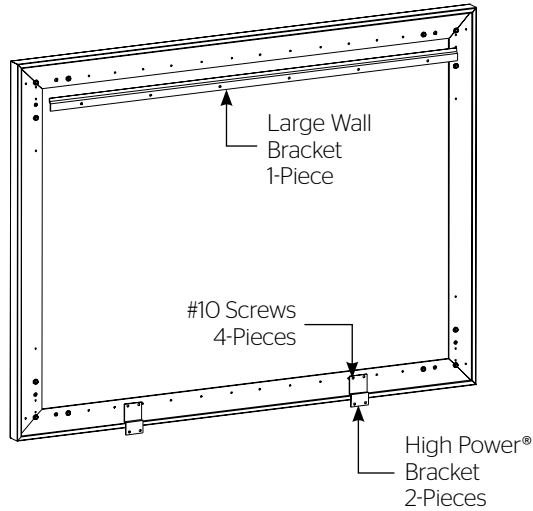

**Figure 7**
3. Some large screen sizes (240") are made with 2-piece side frame rails. For this type of frame you will need to attach one High Power® bracket to each side at the joint. Use the black #10 screws supplied. See Figure 7.